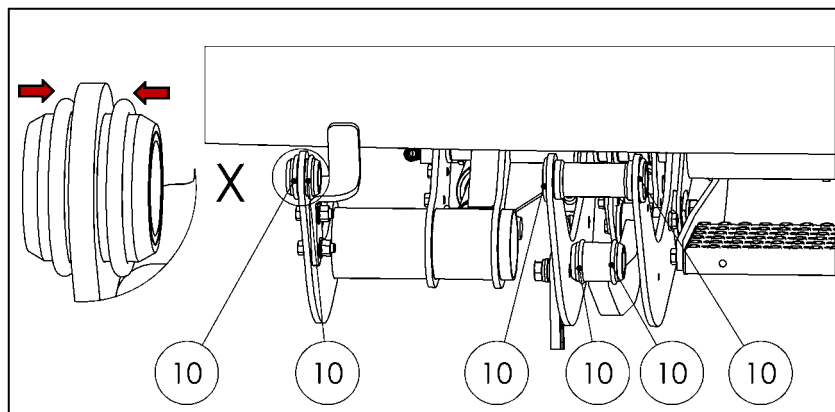

Figure 55
- Thread 6 O-rings (accessories kit parts list – Item No. 10) onto the steel bushings (see Fig. 55).